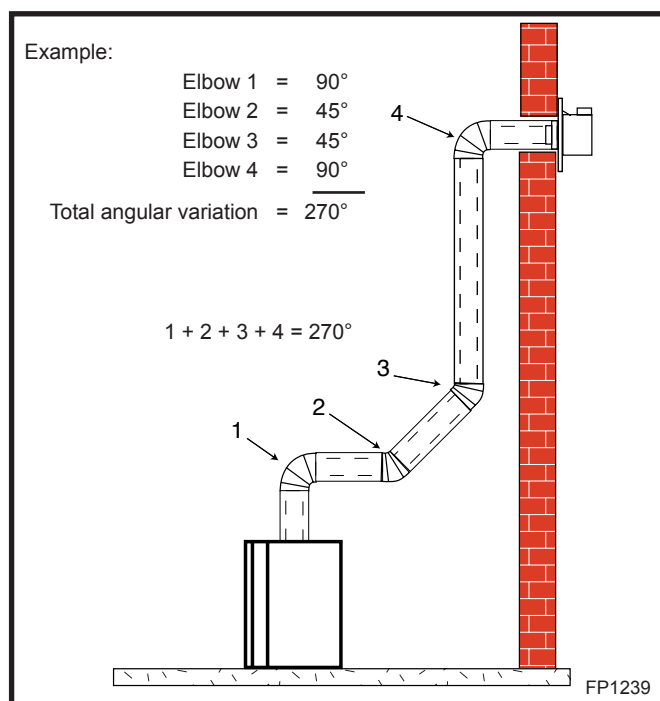

Fig. 16 Maximum number of elbow degrees.
Example: According to the chart the maximum horizontal vent length in a system with a 7.5' (2.3 m) vertical rise is 20' (6 m) and if a 90° is required in the horizontal vent it must be reduced to 17' (5.2 m). In Figure 16, Dimension A plus B must not be greater than 17' (5.2 m).
- The maximum number of elbow degrees in a system is 270°. (Fig. 16)